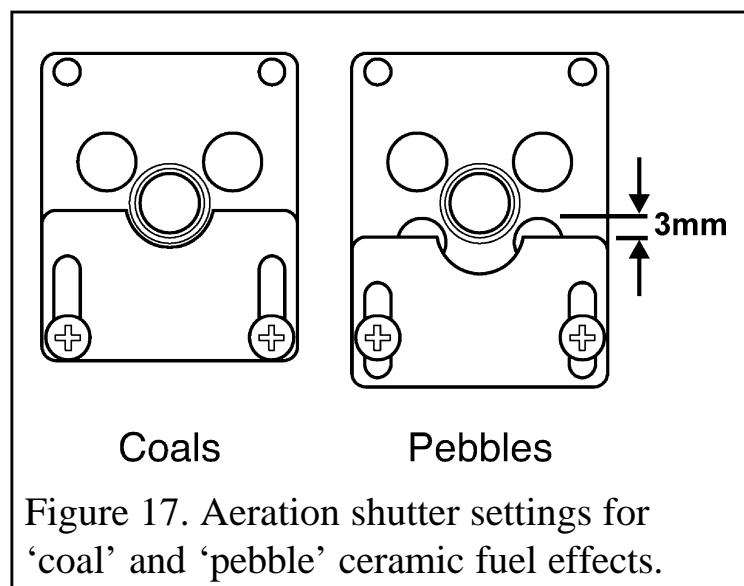

Figure 17. Aeration shutter settings for 'coal' and 'pebble' ceramic fuel effects.
1. The aeration shutter is factory set for use with a 'pebble' ceramic fuel effect. It is important to ensure that the aeration setting is correct for the ceramic fuel effect used. Check the aeration shutter setting even if fitting the 'pebble' fuel effect (See figure 17).
figure 17 and tighten the fixing screws.